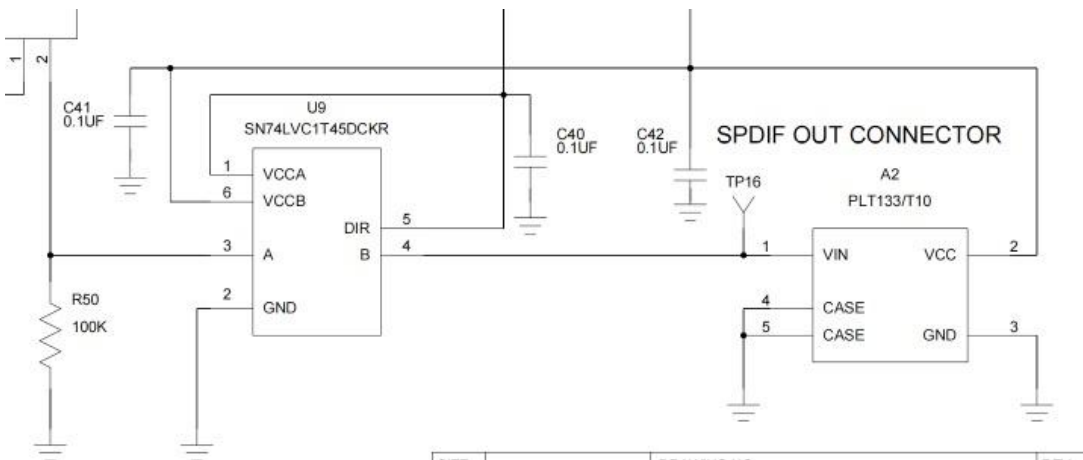

Figure 9: Example Circuit for SPDIF Out Connector
- An optical link that uses Toslink optical components, see Figure 9.